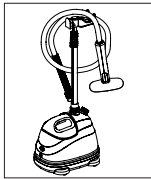

Figure 9
2. Coil the hose and place on the hanger attachment (Fig. 9)